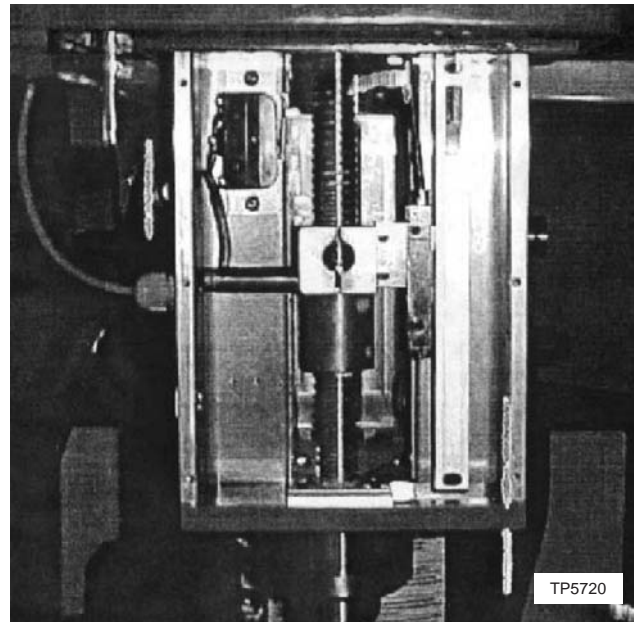
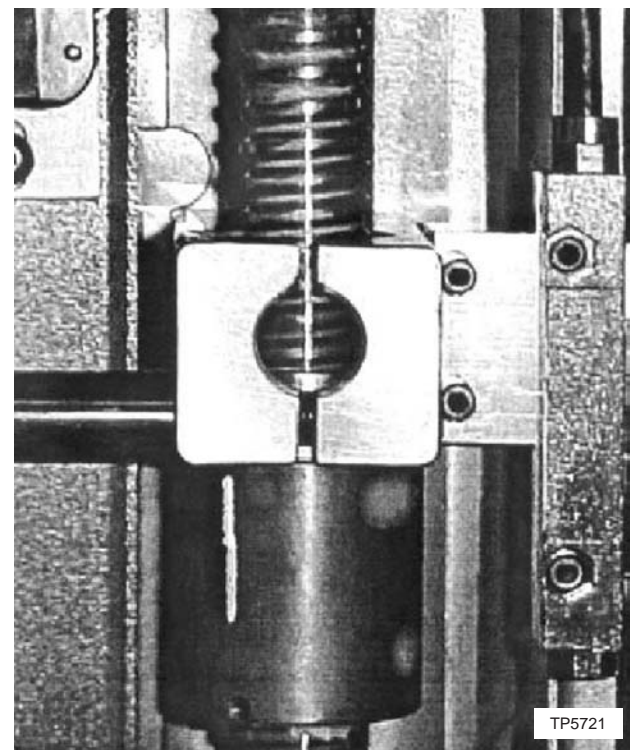

Figure 12.12 - Wiring in the Z Axis Limit Switch
Figure 12.13 - Installation of Digital Readout Head (DRO)
38. Unpack the Fagor Scale and remove the small T9 screw in the shipping clip. Install the Fagor Scale through the bottom plate. Make sure the cable connection is pointed up on the reader head. The scale is fastened to the spar in the lower assembly. This is accomplished using the screws (#8-32 x 3/4") and washers (4mm) supplied on each end of the scale (see Figure 12.12).
40. Fasten the reader head mount to the ball nut block using (2) socket head cap screws (#10-32 x 1/2") supplied.
47. Tighten the (2) socket head cap screws (#10-32 x 5/8") to secure the reader head bracket.
48. Fasten the reader head to the reader head bracket using the (2) socket head cap screws (#8-32 x 3/4") and washers (4mm) supplied (see Figure 12.13).
66. Rotate the pulley by hand until the ballnut is at the top position and place the limit switch assembly on the inside face of the left angle. Slide it so the switch trips at this position. Precise actuation can be obtained by hearing the switch trip or by using an OHM meter to detect tripping (see Figure 12.12 for limit switch placement).